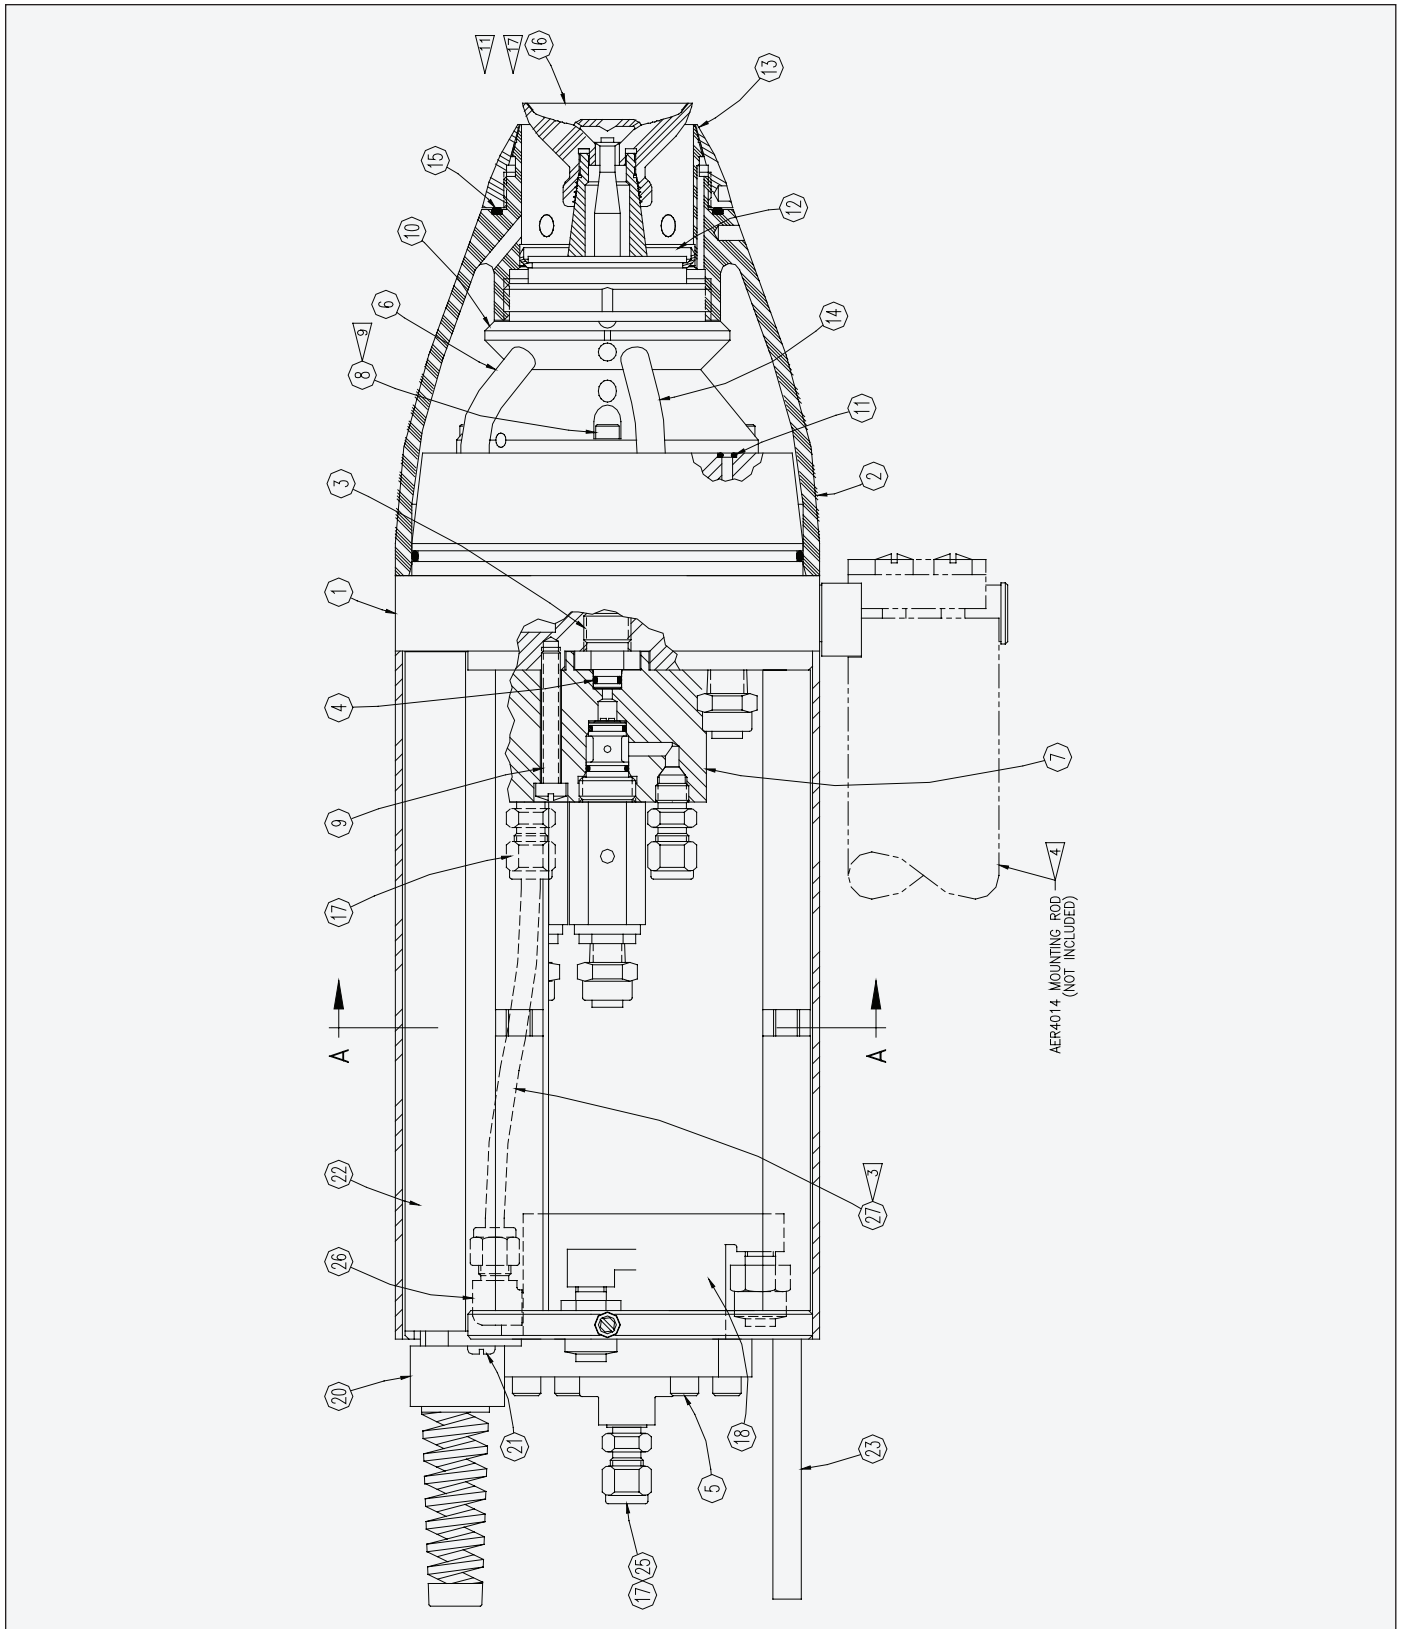

Figure 16a: Aerobell 33 Cross Section View
Remove the front shroud (Figure 16a, item 2) from the atomizer, using the RPM-419, or other properly fitting spanner wrench, and turning CCW (viewed as facing the front end).
Note that when the front shroud is removed, the shaping air cap (Figure 16a, item 13) is removed with it. The Aerobell 33 turbine (Figure 16a, item 10) and the bell assembly (Figure 16a, item 16) will now be exposed.
To remove the atomizer bell cup (Figure 16a, item 16), place the wrench (P/N RPM-419) over the flats on the motor shaft to lock in place. Unscrew the bell by turning CCW with the other hand (facing the front of the atomizer). If the bell cannot be removed by hand, use a second wrench (P/N RPM-419) placed over the wrench flats of the bell cup.
The turbine assembly (Figure 16a, item 10) is removed from the Aerobell 33 atomizer after removing the front shroud assembly. Four mounting bolts (Figure 16a, item 8) will then be exposed, which hold the turbine assembly to the air manifold assembly. These are the larger socket head screws, located toward the outer edge of the motor housing.
Holding the turbine assembly carefully so that it does not drop and using a 5/32 inch wrench, remove the four mounting screws which hold the turbine to the air manifold. Pull the turbine assembly straight forward until it is beyond the end of the fluid tube (Figure 16a, item 3) and the high voltage tube (Figure 16a, item 6) is out of the resistor block (Figure 16a, item 22).
**Reassemble Note:** Prior to replacing the turbine assembly, make sure the bearing air o-ring (Figure 16a, item 11) is in place on the air manifold assembly (Figure 16a, item 1). To replace the turbine assembly, center the turbine shaft with the feed tube, align the high voltage tube with the resistor block, the shaping air tube with the air manifold, and push the turbine assembly slowly in. Holding the turbine securely in place, screw the four mounting bolts (Figure 16a, item 8) through the rear of the turbine assembly into the air manifold assembly. Tighten the four mounting bolts alternately to a final torque of 15 lb•in (1.7 N•m).
The rear shroud (Figure 16a, item 33) can be removed for cleaning or inspection of the components on the inside of the assembly
Loosen the two captive screws (Figure 16a, item 28) by turning them inward (clockwise). Slide the shroud backward over the hoses and high voltage cable. Note that it is not necessary to remove the shroud completely from the hoses. Slide it backward (over the hoses) for easy accessibility to the components such as valves.
To remove the high voltage cable from the resistor module, first remove the retaining screw (Figure 16a, item 21) and slide the connector cover (Figure 16a, item 20) back over the cable. Then loosen the strain relief nut and pull the cable straight out of the module.
To remove the resistor module (Figure 16a, item 22), follow the procedures for removal of the rear shroud. Then slightly lift the rear of the module to clear the step in the rear bulkhead (Figure 17, item 12) and slide it backward until completely separated from the forward high voltage tube (Figure 16a, item 6).
To remove the fluid regulator (Figure 16a, item 18) follow the procedures for removal of the rear shroud. Then disconnect the air pilot lines at the regulator, and the output fluid line at its connection into the fluid manifold assembly (Figure 16a, item 7). Disconnect the fluid supply line at the regulator inlet port, loosen the retaining screws, and pull the regulator straight out of the bulkhead.
To remove the fluid manifold assembly (Figure 16a, item 7) follow the procedures for removal of the rear shroud. Then disconnect the air pilot lines at the tube connection of each individual valve.
Disconnect all fluid connections including the dump line, paint, and solvent supply lines from the fluid manifold. Then using a medium flat head screwdriver, remove the mounting screws (Figure 16a, item 9) and pull the manifold
To remove the fluid tube assembly (Figure 16a, item 3), follow the procedures for removing the rear shroud and fluid manifold assembly. Once the fluid manifold is removed, the fluid tube will be exposed at the rear of the air manifold. Using a standard 3/4 inch socket, engage the hexagon flats on the feed tube, and turn CCW to loosen. After disengaging the threads completely, pull the feed tube straight out of the air manifold.